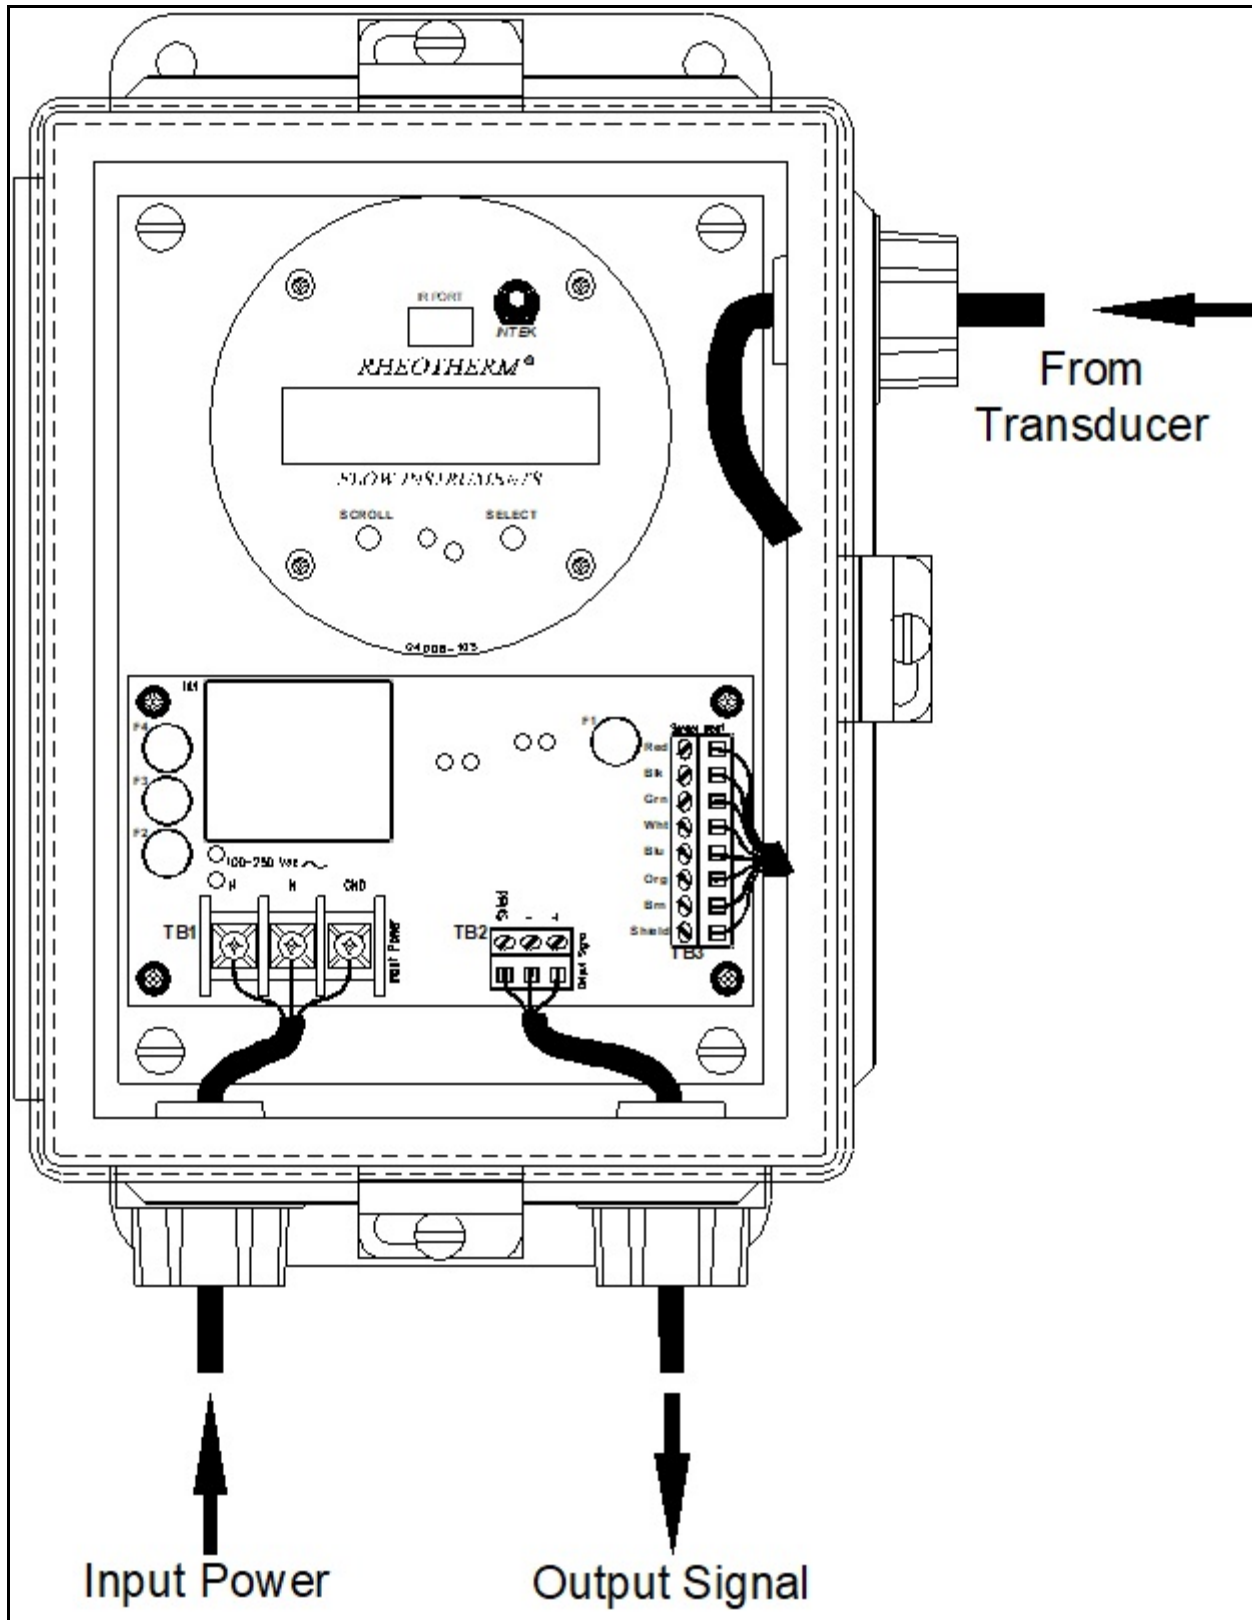

Figure 1 - Electrical Interface – Model 210R option
3. Pull wires through the conduit. Wire for the power connection must be no smaller than 22 gauge or as required by applicable local or company wiring codes. After pulling the wire, pot the conduit or wires near the enclosure if there is any possibility of water from condensation or spray entering the enclosure through the conduit. With the “blind” option, a single cable that contains two internal twisted-shielded pairs is included and is used for both the input power and the output signal. For the 210R option, a shielded sensor cable is supplied. Conduit or other suitable protection is also recommended for this cable between the sensor and the transmitter electronics. Separate wire pairs are recommended for power and signal conductor for use in hazardous locations where the -FM option is required. (See Figures 1 and 2).
4. Make wiring connections. ***Power should be off at this time.*** Refer to Figures 1 and 2 for system wiring detail.